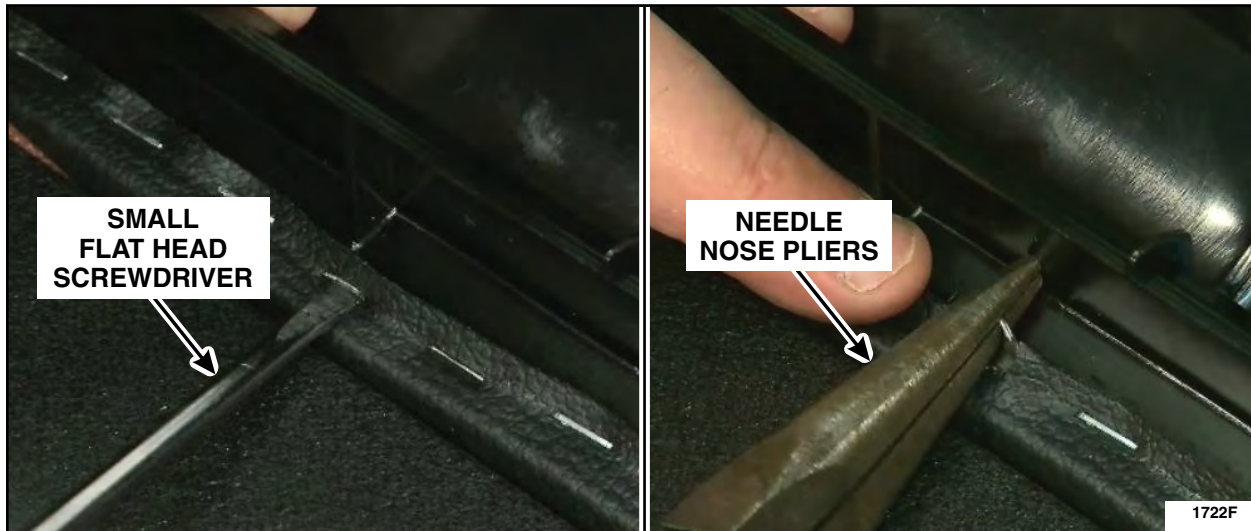

FIGURE 6
6. If sections of the cover material are wavy following inspection, or staples have pressed through the cover material, remove any staples or section of staples using a small flat head screw driver and needle nose pliers and re-staple as needed. See Figure 6.